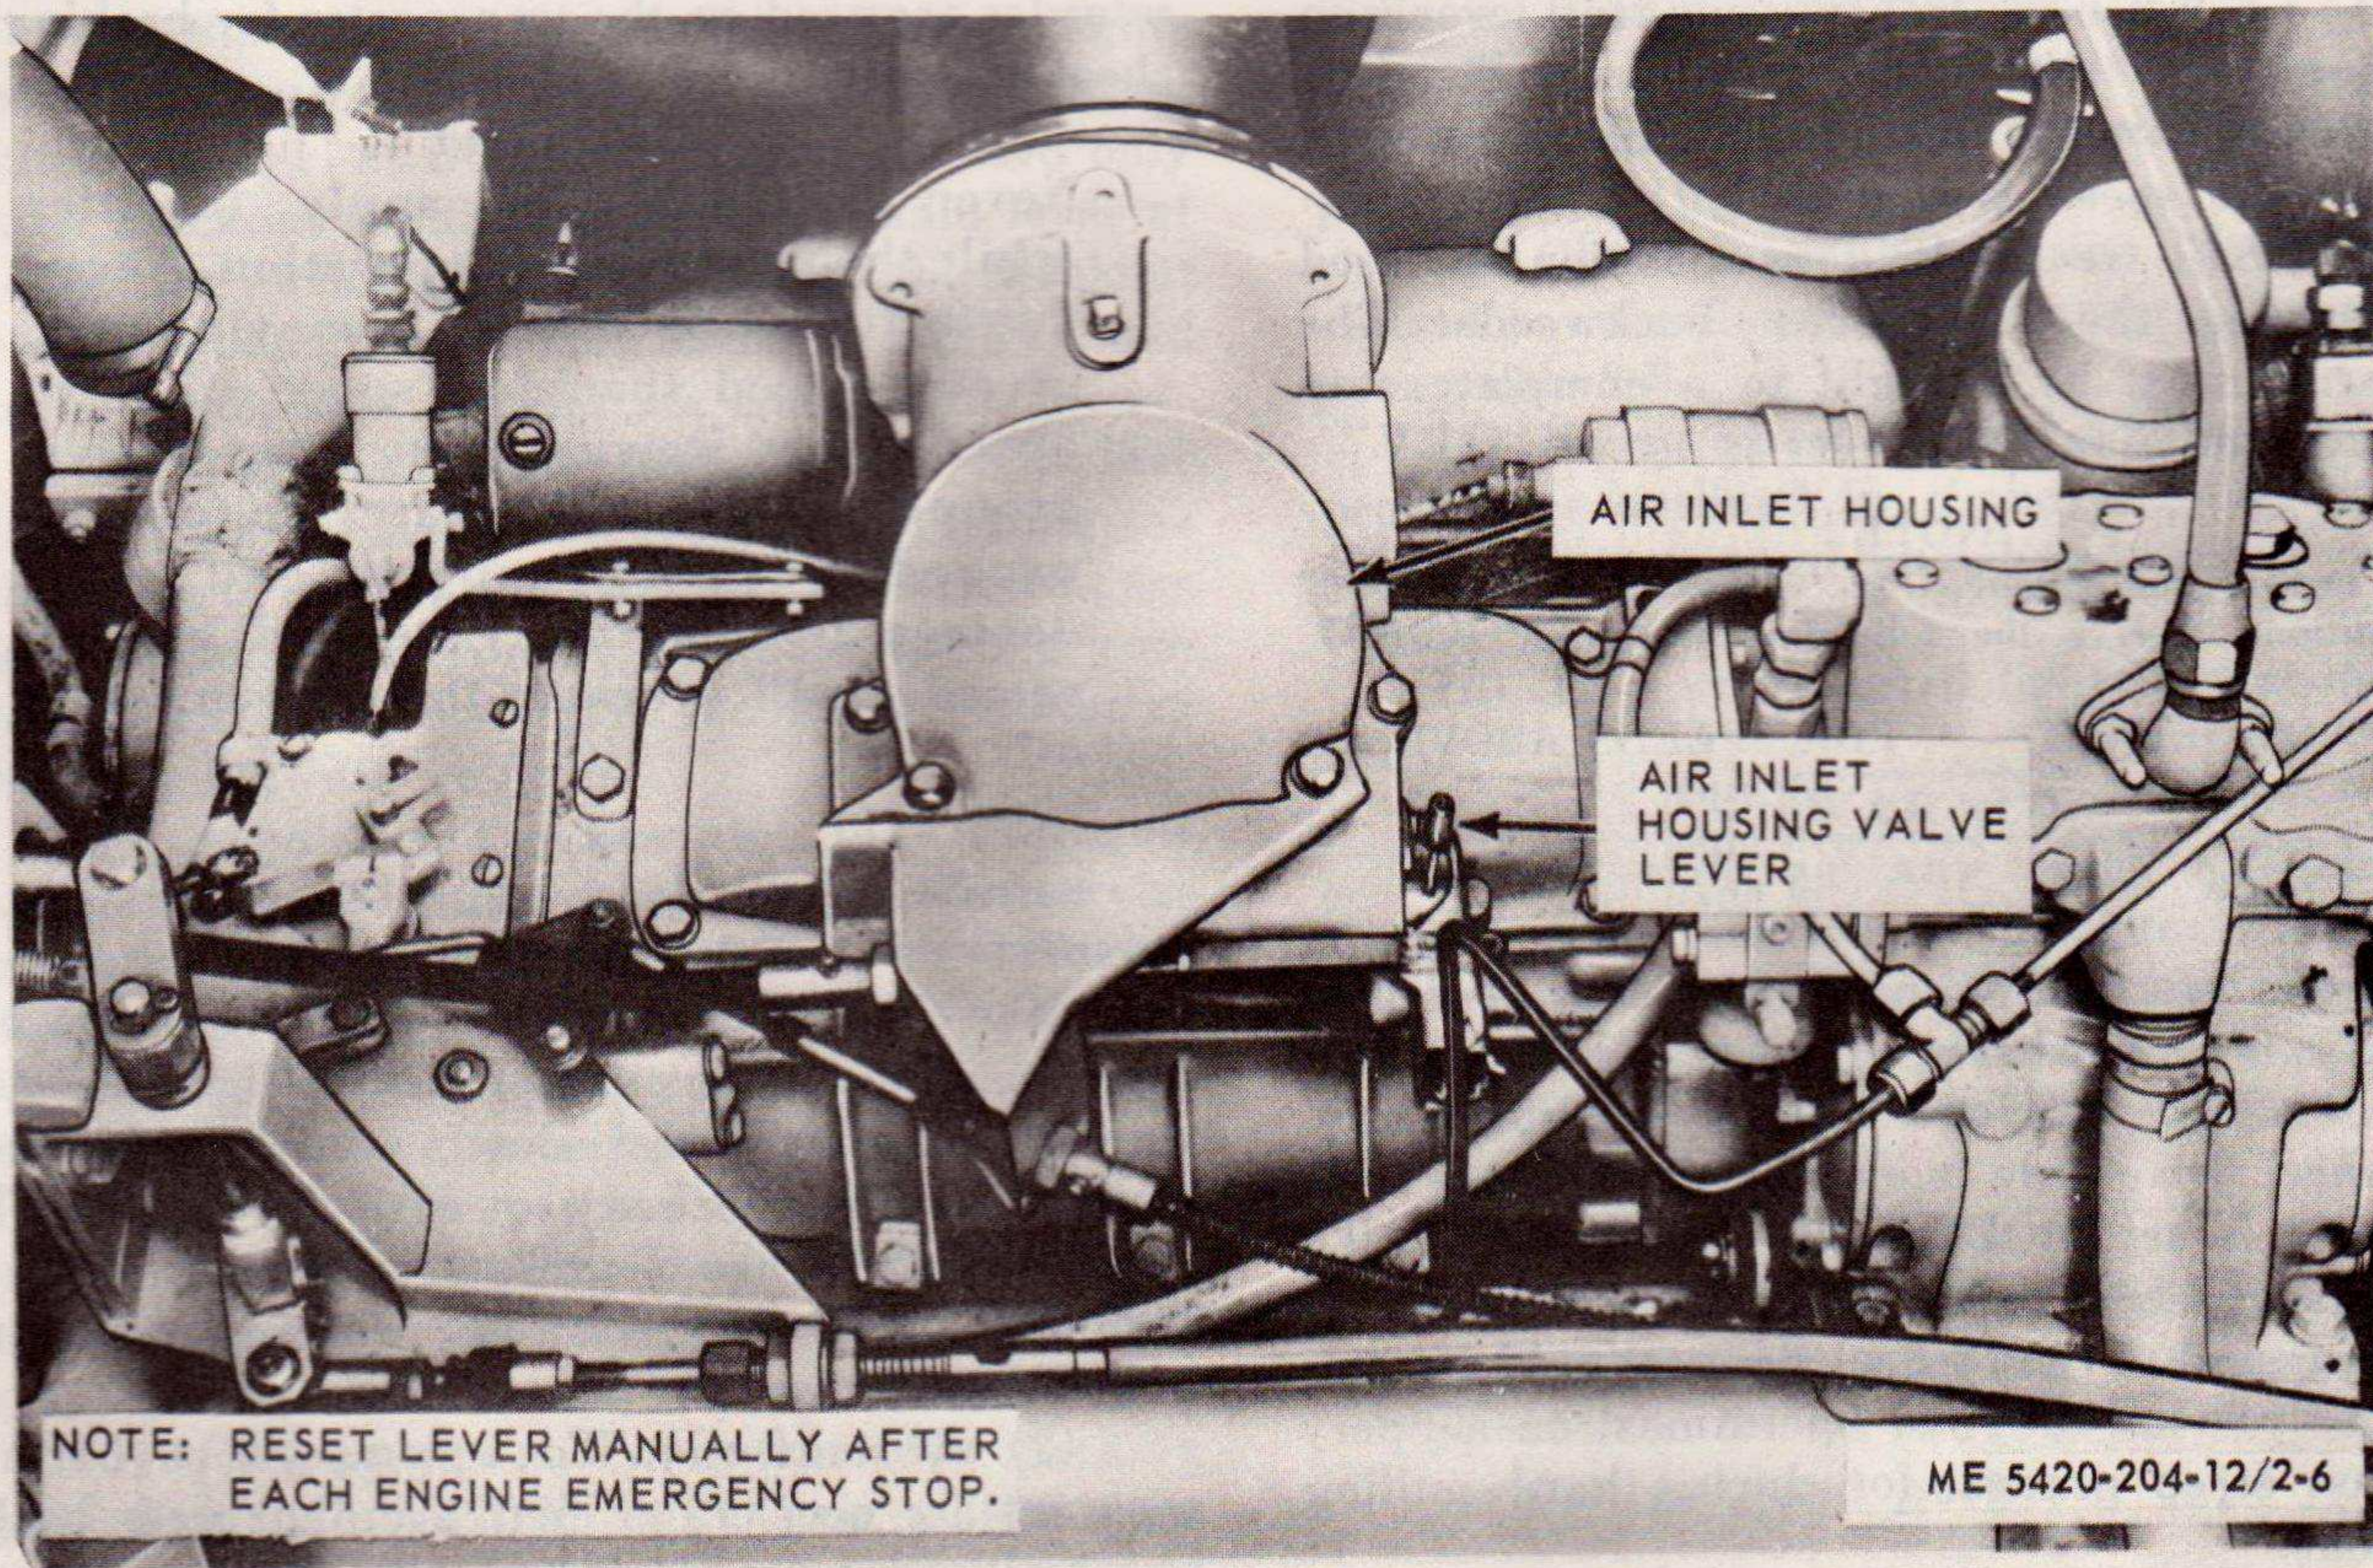

Figure 2-6. Resetting air inlet housing valve.
(2) After engine has been stopped by emergency procedure, the air inlet housing valve must be reset by hand. Refer to figure 2-6 for reset procedure.